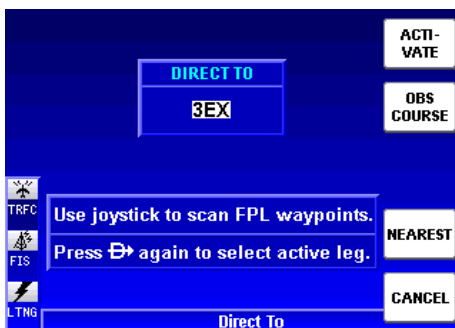

Figure 1-139
1. Press the Direct-To Key to display Figure 1-139.
1. Press the Direct-To Key to display the Direct-To window as shown previously in Figure 1-139 .